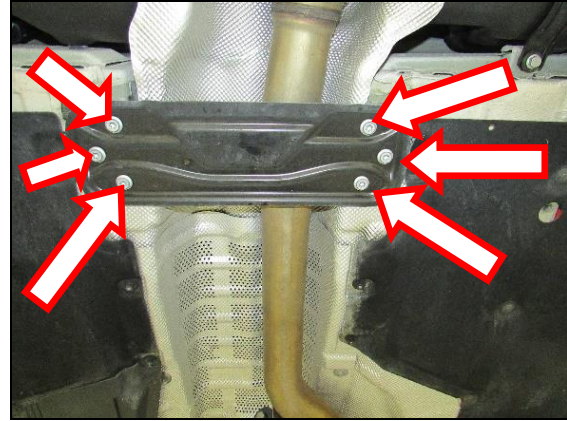

Figure 2
4. Remove the (x6), bolts at the cross brace and remove the brace (**Figure 2**).